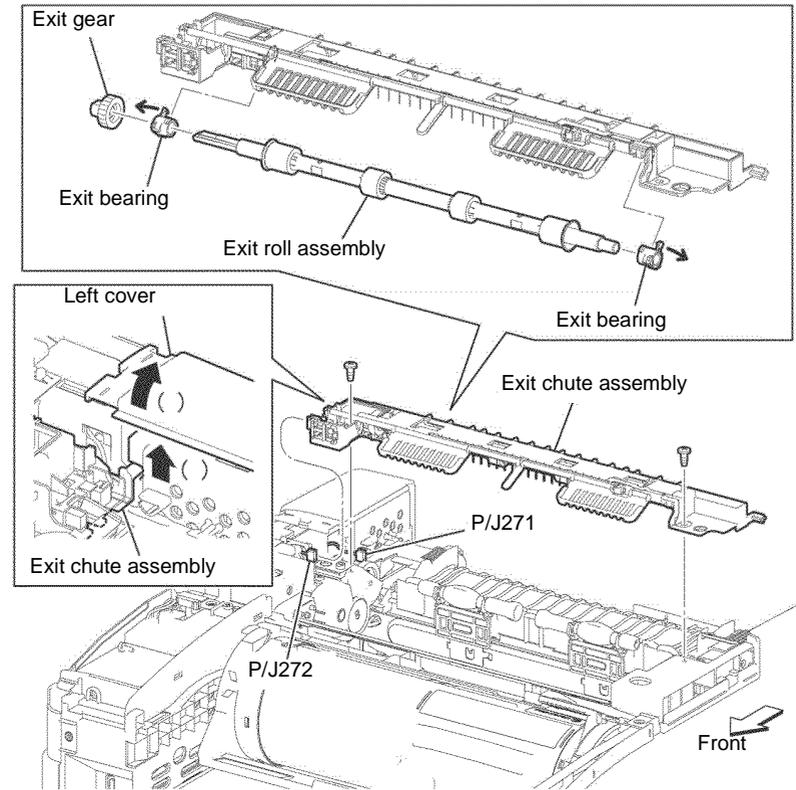

Figure 2 Exit chute assembly removal
- Bend the left cover, release the two bosses of the exit chute assembly from the printer, then lift the exit chute assembly in the arrowed direction, Figure 2.
- Disconnect P/J271 from the exit sensor, then remove the exit chute assembly, Figure 2.
- Remove the exit gear. Release the hook that fixes the exit bearing, then remove the exit bearing and the exit roll assembly, Figure 2.